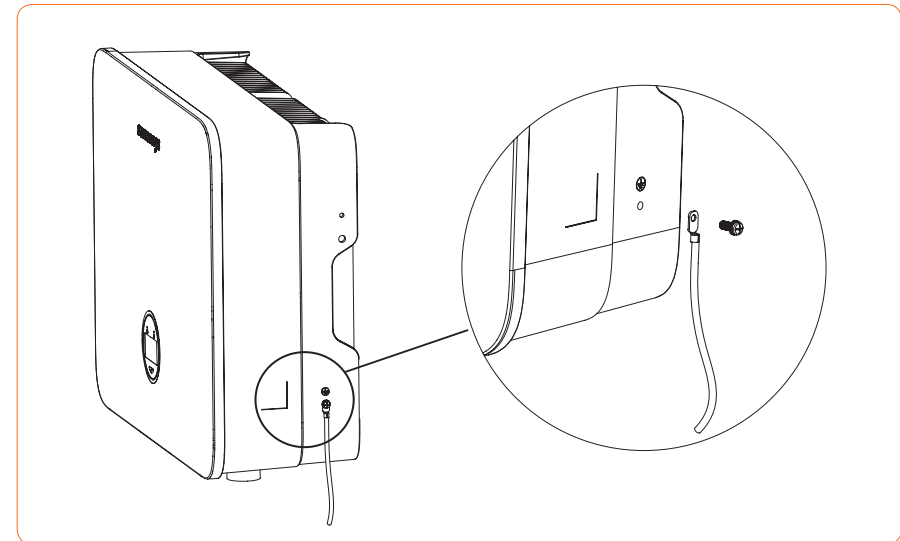

Figure 4-13 Grounding terminal connection
- ① The external grounding terminal is located in the lower right side of the inverter.
- ② Fix the grounding terminal to the PE wire with a proper tool and lock the grounding terminal to the grounding hole in the lower right side of the inverter, as shown in Figure 4-13.
- ③ The cross-sectional area of the external grounding cable is 4mm².